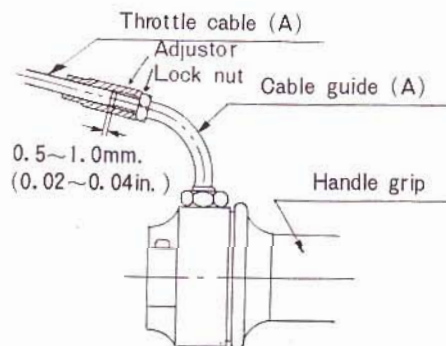

Fig. II-3-6
- b. Next, adjust throttle cable(A) so that the gap as shown in Fig.II-3-6 below will be between 0.5 and 1.0 mm. (0.02~0.04 in.)